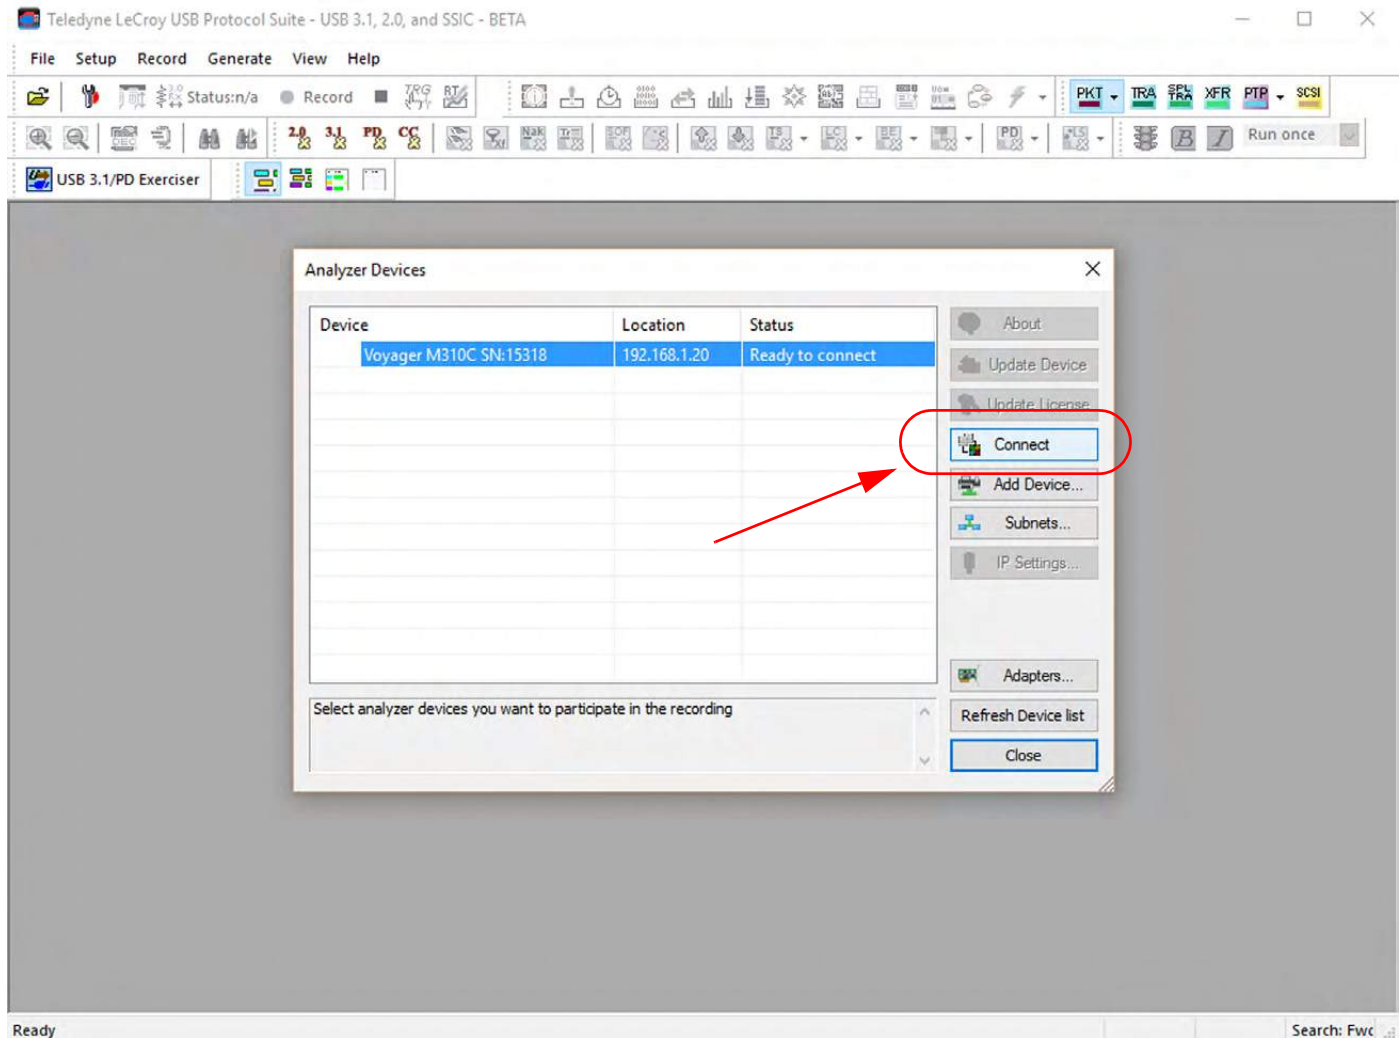

Figure 3.38: USB Analyzer with New IP Address Connected Over an Ethernet bus
4. Select "Setup -> All Connected Devices" and then select the analyzer you want to connect to. The Connect tab will be highlighted. See Figure 3.38.